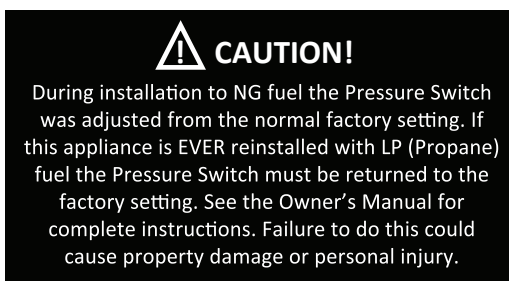

Fig. 37 – Caution Sticker
7. When the Pressure Switch set point is adjusted the appliance may not work properly if the unit is ever reinstalled on LP (Propane fuel). The “CAUTION” sticker (Fig. 37) is supplied in the hardware kit. You must install the “CAUTION” sticker on the appliance (Fig. 38).